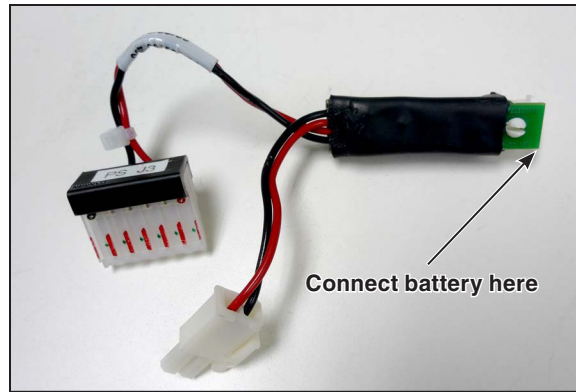
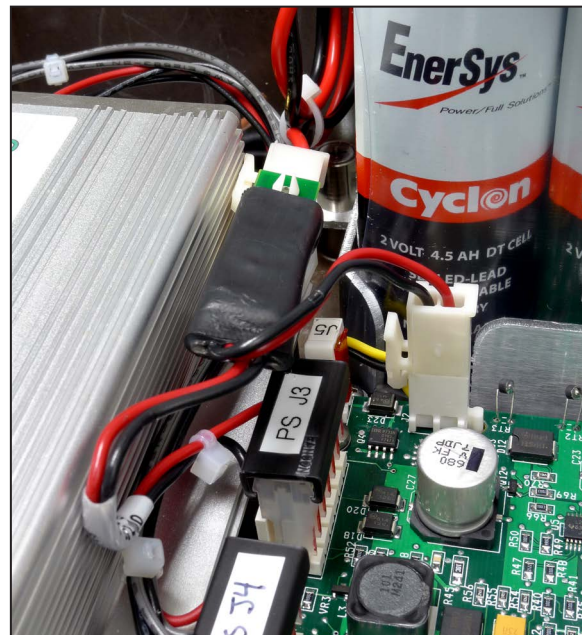

Figure 3. Battery disconnect cable.
Figure 4. Installed battery disconnect cable.
- (a) Connect the battery cable to the end of the battery disconnect cable and replace the cable tie removed in Step 1c on page 1. See Figure 3. Figure 4 shows the battery disconnect cable installed.